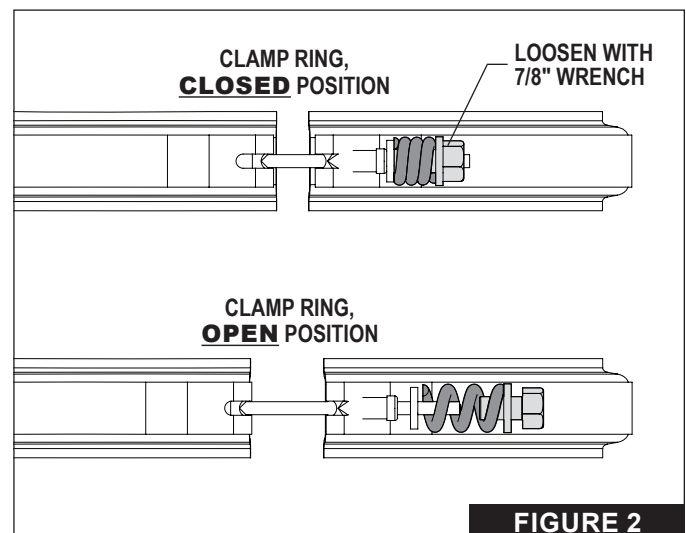

FIGURE 2
- c. Stand clear of the filter and wait until all pressure is relieved. **Pressure gauge must read zero (0) psi.**
3. Using a 7/8-inch wrench, loosen the clamp barrel nut, allowing the spring coils to decompress. See **FIGURE 2**.